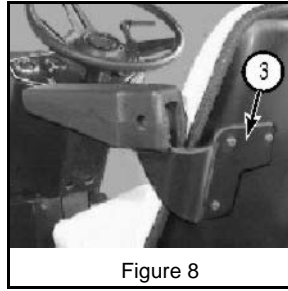

Figure 8
2. Remove armrests (3, Figure 8) from box strap to the crate. Attach to seat with fasteners provided.